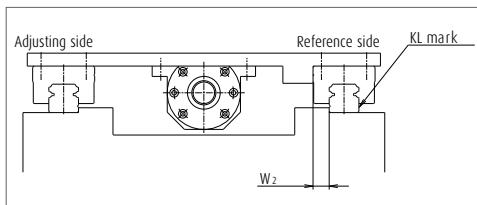

Fig. 2 Most common setting of the reference side rail
- › When the datum surfaces of the reference side rail and slides are pressed to their mounting datum surfaces respectively, the variation of distance (mounting width W_2 or W_3) between the datum surfaces of the rails and that of the slides must be a minimum and therefore, it is specified as the standard. (Figs. 2 and 3)